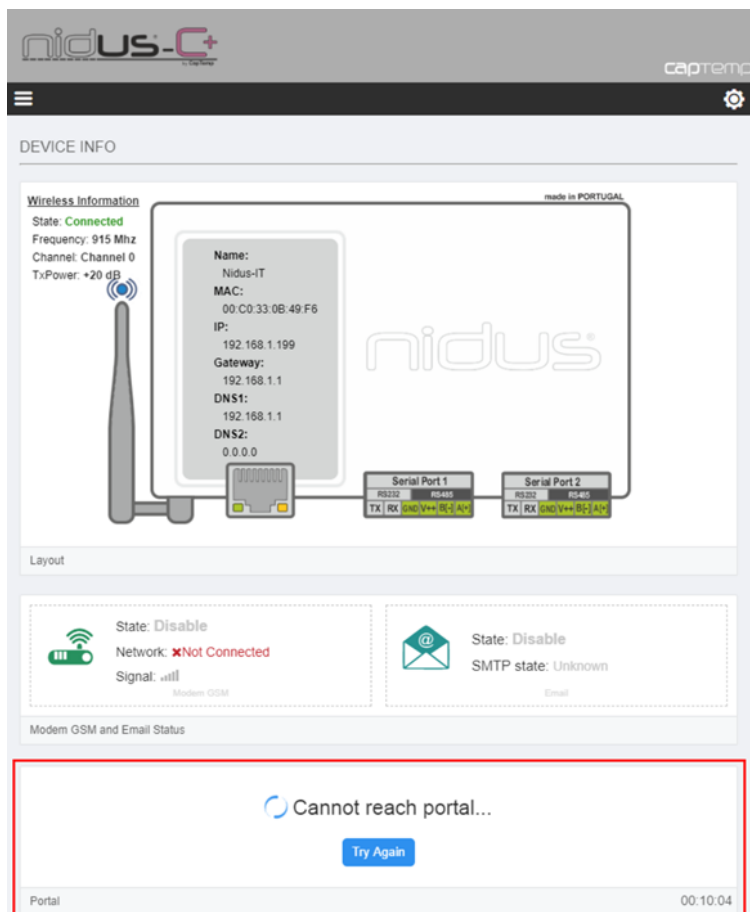

Figure 40 - Portal communication section on Nidus homepage
2. In the homepage, there is available a section with portal communication status, as shown in Figure 40.